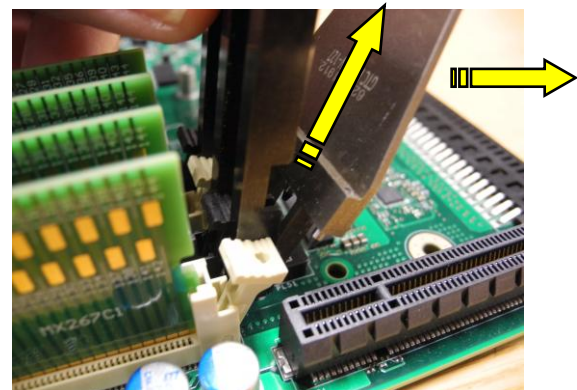

Figure 6
7. Lift the extraction tool up until its pins are out of the socket latches. Then slide the tool out from the side. See Figure 6.